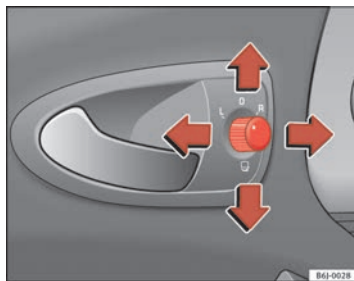

Fig. 66 Controls of exterior mirrors
1. Turn knob ⇒ fig. 66 to position **L** (left exterior mirror).
- Turn the control ⇒ page 102, fig. 66 to position  to fold in the exterior mirrors. You should always fold in the exterior mirrors if you are driving through an automatic car wash. This will help prevent damage.